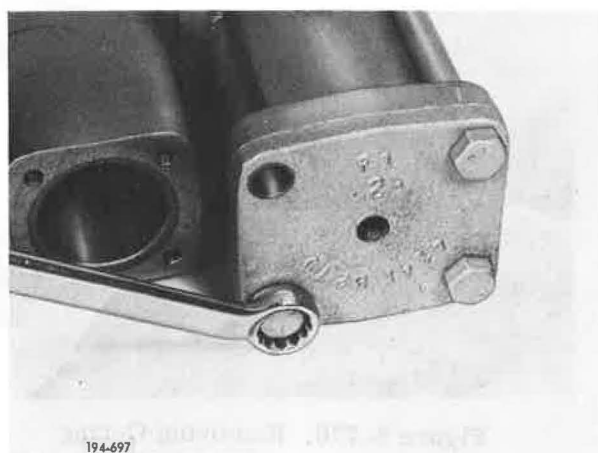

Figure 5-773. Removing Capscrews
9. Remove Hi/Direct shift cover capscrews. See Figure 5-773.